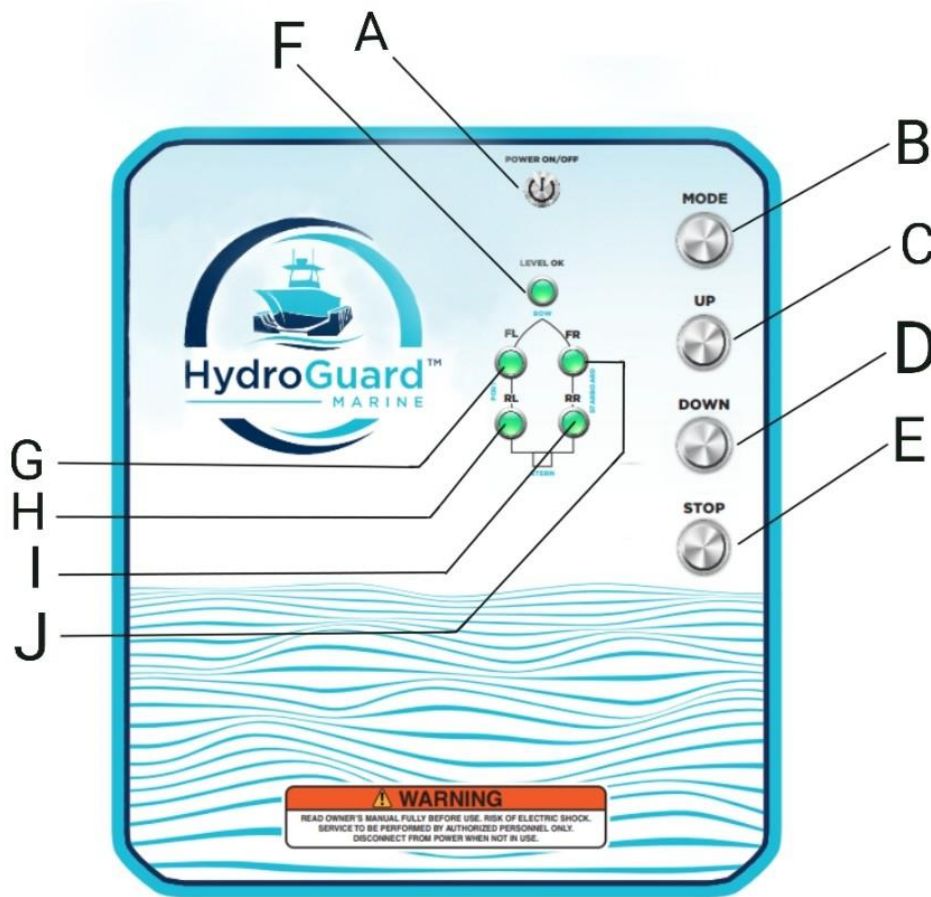

Figure 1
Familiarize yourself with the Control Panel as shown in Figure 1. The simple to use interface consists of 5 buttons, they are: POWER ON/OFF, MODE, UP, DOWN, and STOP. There are also 4 Tank Indicator Lights (FIG 1 G-J): Front Left (FL), Rear Left (RL), Front Right (FR), and Rear Right (RR) that illuminate for each tank when the tank is active. Above the tank indicators, there is also a LEVEL OK indicator (FIG 1-F) that remains illuminated when the lift is in a level position.
- Use the POWER ON/OFF button (FIG. 1-A) to turn on your lift. The button will illuminate green to indicate that power is on.
- Make sure you are aware of the STOP Button (FIG.1-E) position. To halt the lift operation at any time, press the STOP Button.
1. Press the DOWN Button (FIG.1-D). Your lift will automatically begin to lower your vessel. The valve indicator lamps (FIG. 1 G-J) will illuminate to identify as tank valves are opened/closed. Your lift will open and close the necessary valves automatically to bring your lift up or down while remaining level. Please note that the blower motor does NOT come on while lift is being lowered.
4. Press the UP Button (FIG. 1-C). Your lift will automatically begin to raise your vessel. The valve indicator lamps (FIG. 1 G-J) will illuminate to identify as tank valves are opened/closed. Your lift will open and close the necessary valves automatically to bring your lift up or down while remaining level.
6. Press the STOP Button (Fig. 1-E) once your lift is fully in the up position and bubbles are seen exiting from all tanks.
7. Turn off the lift using the POWER ON/OFF button (FIG. 1-A) and unplug the lift when you are finished using it. Unplugging your lift will help protect it from lightning strikes and other environmental hazards.
- The LEVEL OK Indicator (FIG 1-F) will be illuminated green while going up or down in automatic mode to indicate that your lift is appropriately level ( $\pm 3.5^\circ$  or less).
1. Press and hold the MODE button (FIG 1-B) for greater than 1.5 seconds to enter Manual mode. Please note that if the lift is raising or lowering in Auto mode, you will need to press STOP (FIG 1-E) before entering Manual mode.
- One or more Tank Indicators (FIG 1-G-J) will be illuminated while in Manual mode. Please note that in Auto Mode, tank indicators will only be illuminated when the lift is raising and lowering.
2. Each additional press and hold for greater than 1.5 seconds of the MODE Button (Fig.1-B) will cycle through the different combinations of Tanks. You will have the option to manually raise or lower one side of the lift at a time using 2 tank pairs, or to raise and lower each tank individually.
- Press and hold the UP Button (Fig.1-C) to raise the selected tanks.
- Press and hold the DOWN Button (Fig.1-D) to lower the selected tanks.